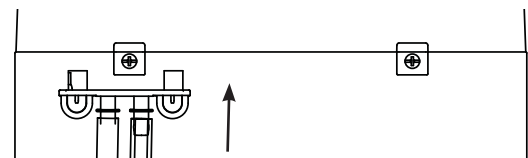

Figure 2
3. Drain the Opal by unhooking the top of the drain hoses at the back of the unit. See Figures 2 and 3. **NOTE:** If the side tank is present, remove the side tank from the side tank base and disconnect the side tank base before draining.